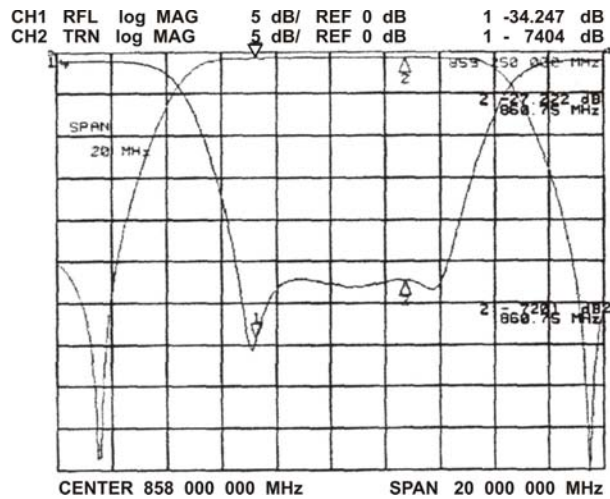

Fig. 4
6. Use the coupling **5** (Fig. 1) to set the position of the notch attenuation on the desired frequencies (Fig. 4) (5.5MHz and +11MHz or 4.5MHz and +9MHz).